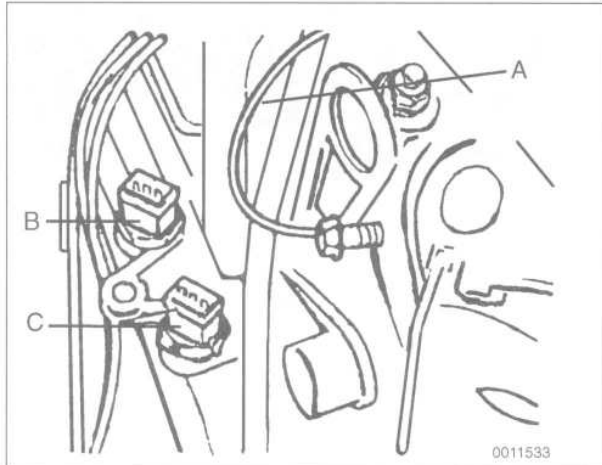

Fig. 14. Ground wire for ignition coils (A) and coolant temperature sensors (B, white connector; C, black connector).
9. Remove ground wire from rear engine lifting bracket and disconnect harness connectors from engine coolant temperature sensors at rear of engine. See Fig. 14.